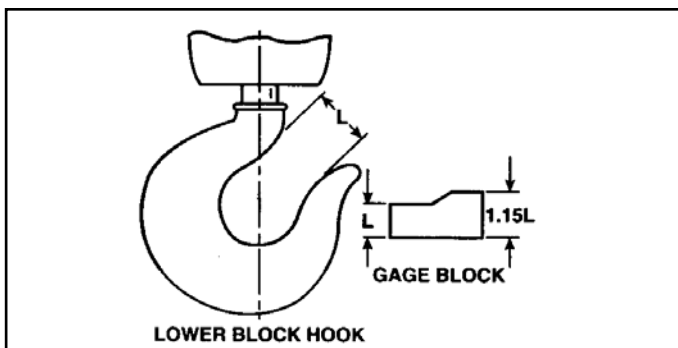

Figure 5-2. Gage Block
- f) Check throat opening of the hook. (Refer to Figure 5-2.) It is recommended that upon receipt of the hoist, a measurement be made and recorded of the hook throat opening. OSHA regulations require that the hook be replaced if the throat opening exceeds 15 percent of the original opening, or if the hook is twisted more than 10 degrees from the unbent plane. We suggest that a gage block properly identified to the hoist, similar to the one shown in Figure 5-2, be made for each hook for use in these measurements.